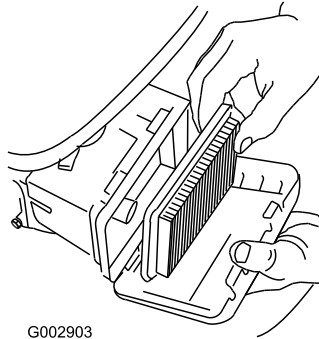

Figure 40
3. Remove the air filter (Figure 40).